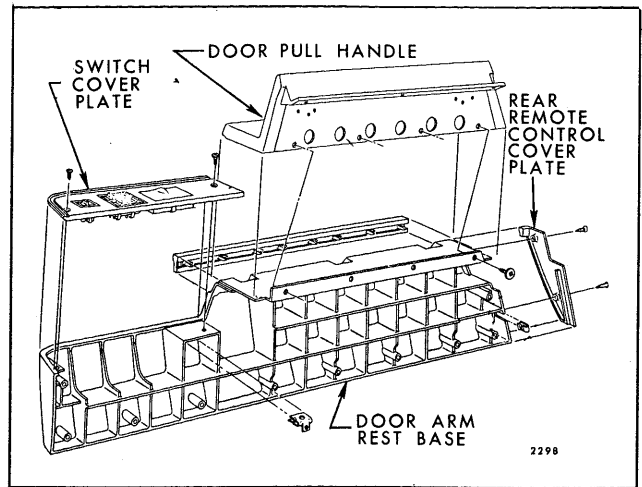
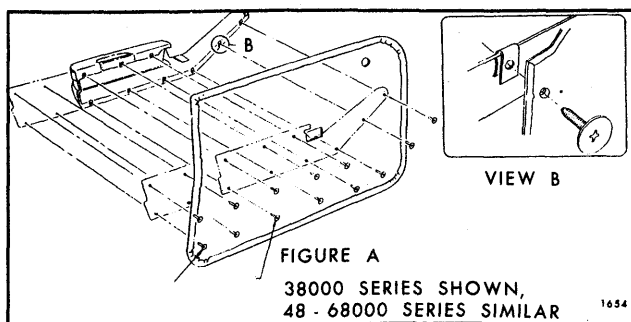
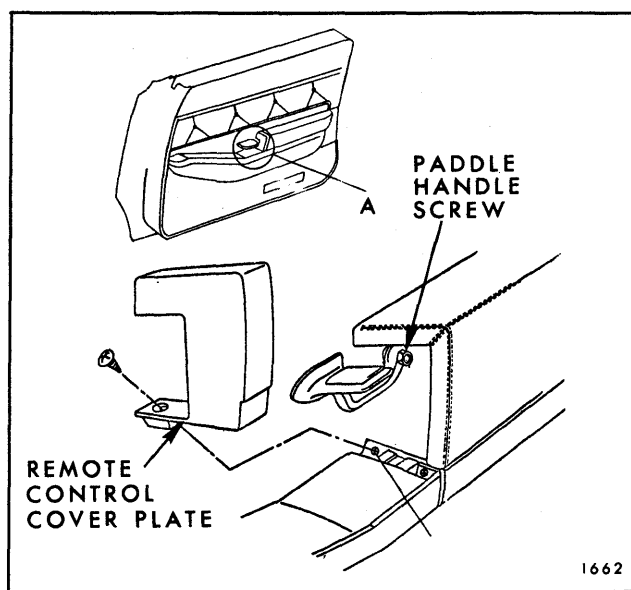

Fig. 7-6—Door Arm Rest and Pull Handle - 49487 Style with Custom Trim
Fig. 7-9—Arm Rest to Door Trim Pad Installation
Fig. 7-11—Remote Control Handle and Cover Plate - Front Door Shown - Rear Door Typical
which are assembled to the trim pad prior to trim pad installation as shown in Figure 7-9.
Figure 7-6 illustrates the arm rest assembly and pull handle build-up on the 49487 Style with custom trim. Retention of this assembly to trim pad is similar to that shown in Figure 7-9.
2. On styles with arm rests that are a component part of the door trim assembly as shown in Figure 7-9, it is necessary to remove remote control cover plate (Fig. 7-11) to gain access to remote control handle screw.
NOTE: On 49487 Styles with dual remote control handles, remove switch cover plate to gain access to front handle and remote control cover plate at rear for access to rear handle (Fig. 7-6).